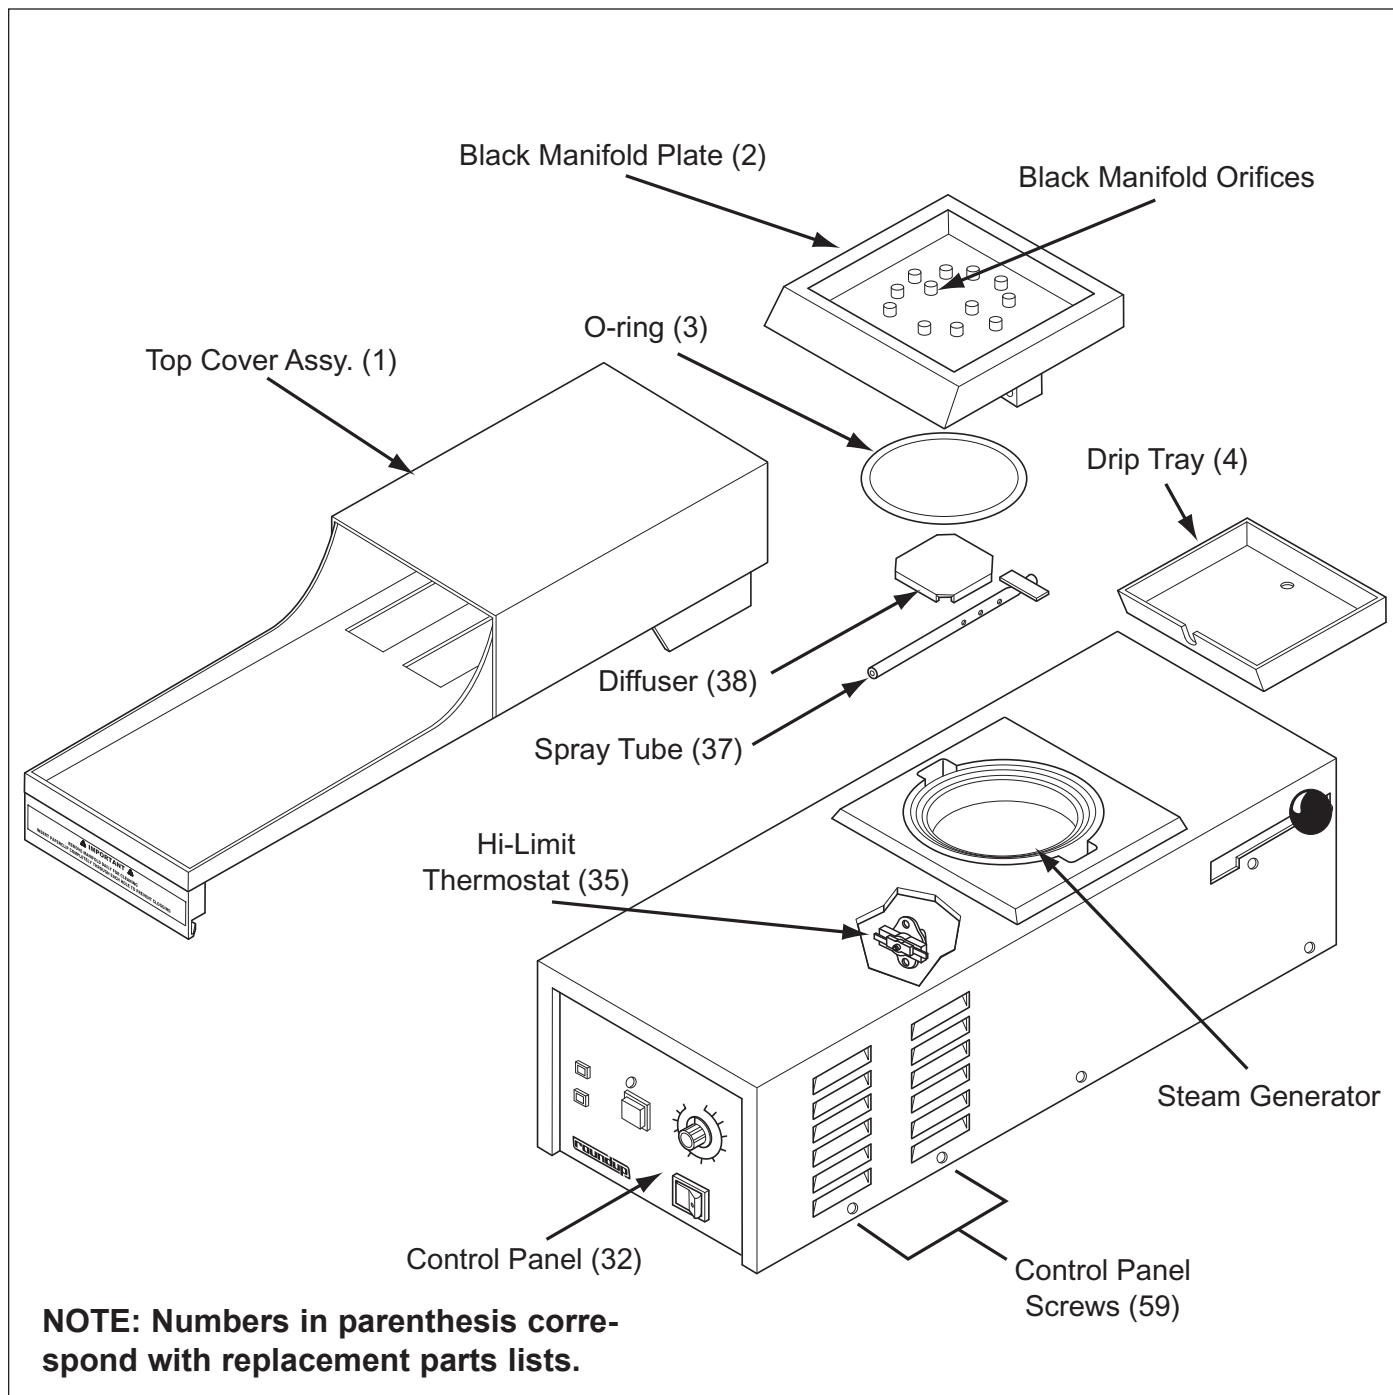

Figure 5. Variety Steamer Components
3. With the unit cool, use a NON-ABRASIVE brass wire brush and/or scraper to loosen and remove the excessive calcium/mineral deposits from the generator surface (Figure 5). Wipe the generator with a clean, damp cloth and reassemble the unit.